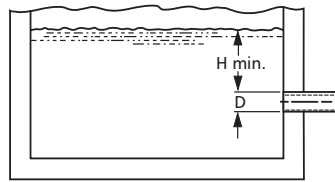

Figure 2
- 3.6. Size of inlet from liquid source, and minimum submergence over inlet, must be sufficient to prevent air entering pump through vortexing. See Figures 2 through 5.